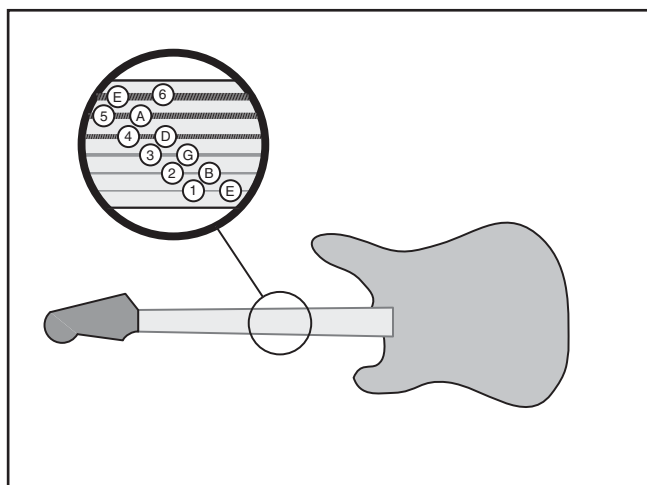

Figure 38. String tuning notes.
- The goal when tuning is to make the strings in tune with one another. Standard tuning is shown in **Figure 38**.